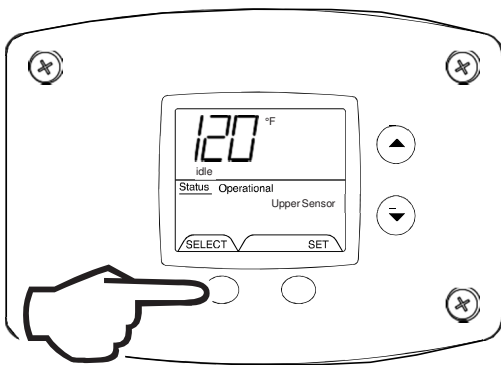

Fig. 48
- For water heaters using two temperature sensors, pressing the 'Select' button again displays the Upper Sensor temperature reading. 'Upper Sensor' will be displayed in the lower right side of the status window of the water heater display (Fig. 48).